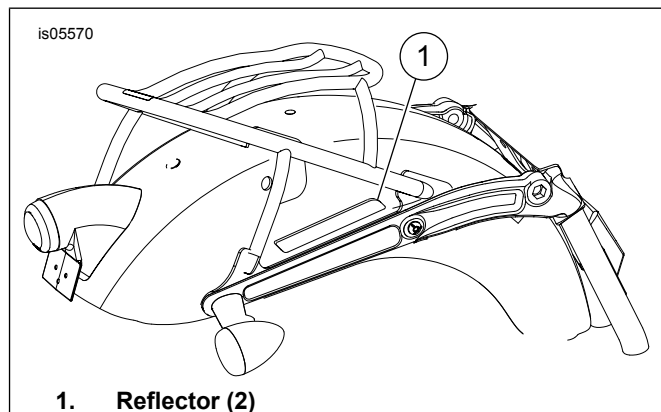

Figure 4. Install Reflector
11. See Figure 4. Clean the back of the reflector, apply double-sided foam tape from the kit and install the reflector (1) on the fender. Repeat for the other side.